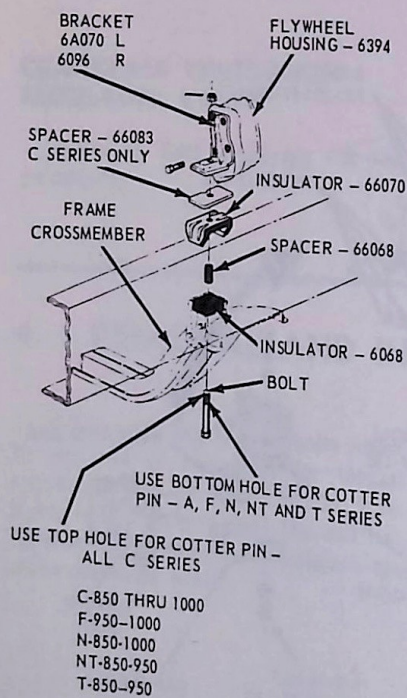

FIG. 7 Engine Rear Support-C-Series
1. Remove the cotter pin from the engine rear mount bolt, then remove the mounting bolt, lower insulator, and spacer (Fig. 7). A3121-A 2 1/16 x 3 1/2